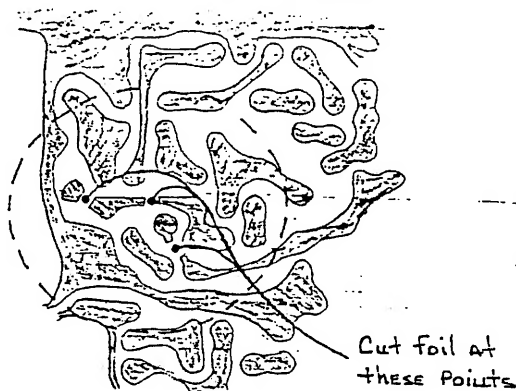

FIGURE 1
8. Using a small craft knife, cut the foil at the 3 points shown in figure 1 (top right corner of the board).